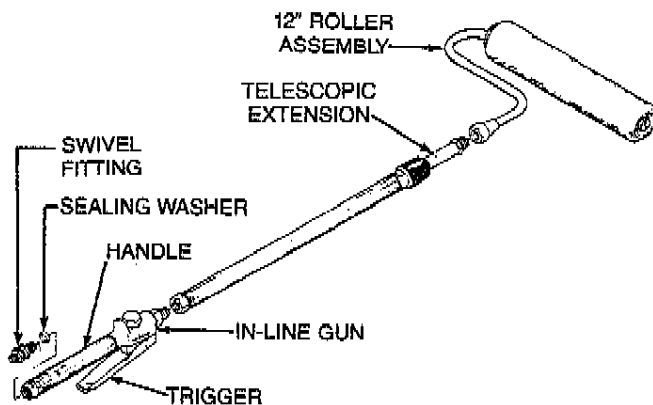

Figure 1. - R-10 Telescopic Roller
2. Assemble the Roller onto the Telescopic Extension or, where extension is not needed, directly to the In-line gun. See Figure 1. Be sure all connections are tight.